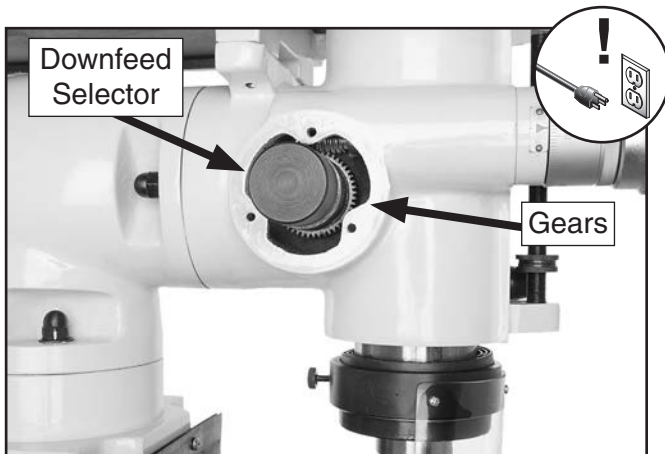

Figure 49. Left side of quill gear shaft exposed.
6. Remove the end cap from the left side of the quill gear shaft that surrounds the downfeed selector (see **Figure 49**).